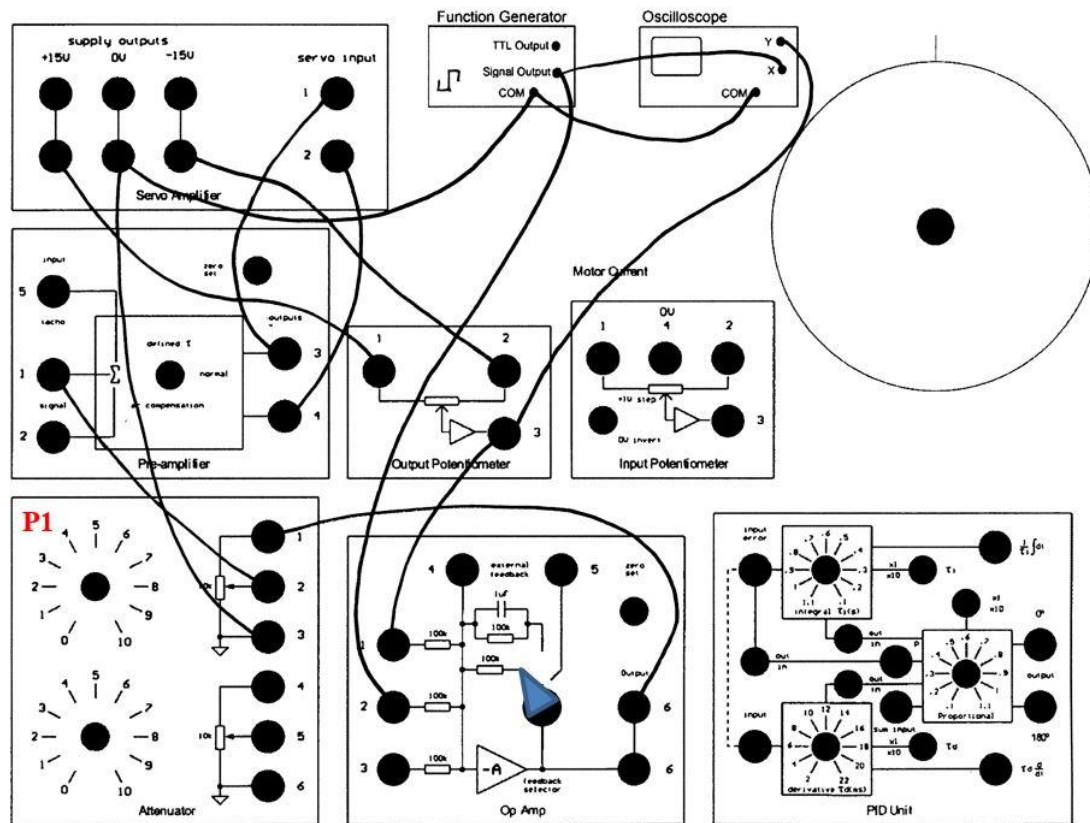

Figure 5.1
- Connect the devices as shown in Figure 5.1. The signal from the functional generator is the input. Set it as a square wave with peak-to-peak magnitude 4V at a frequency below 200 mHz.